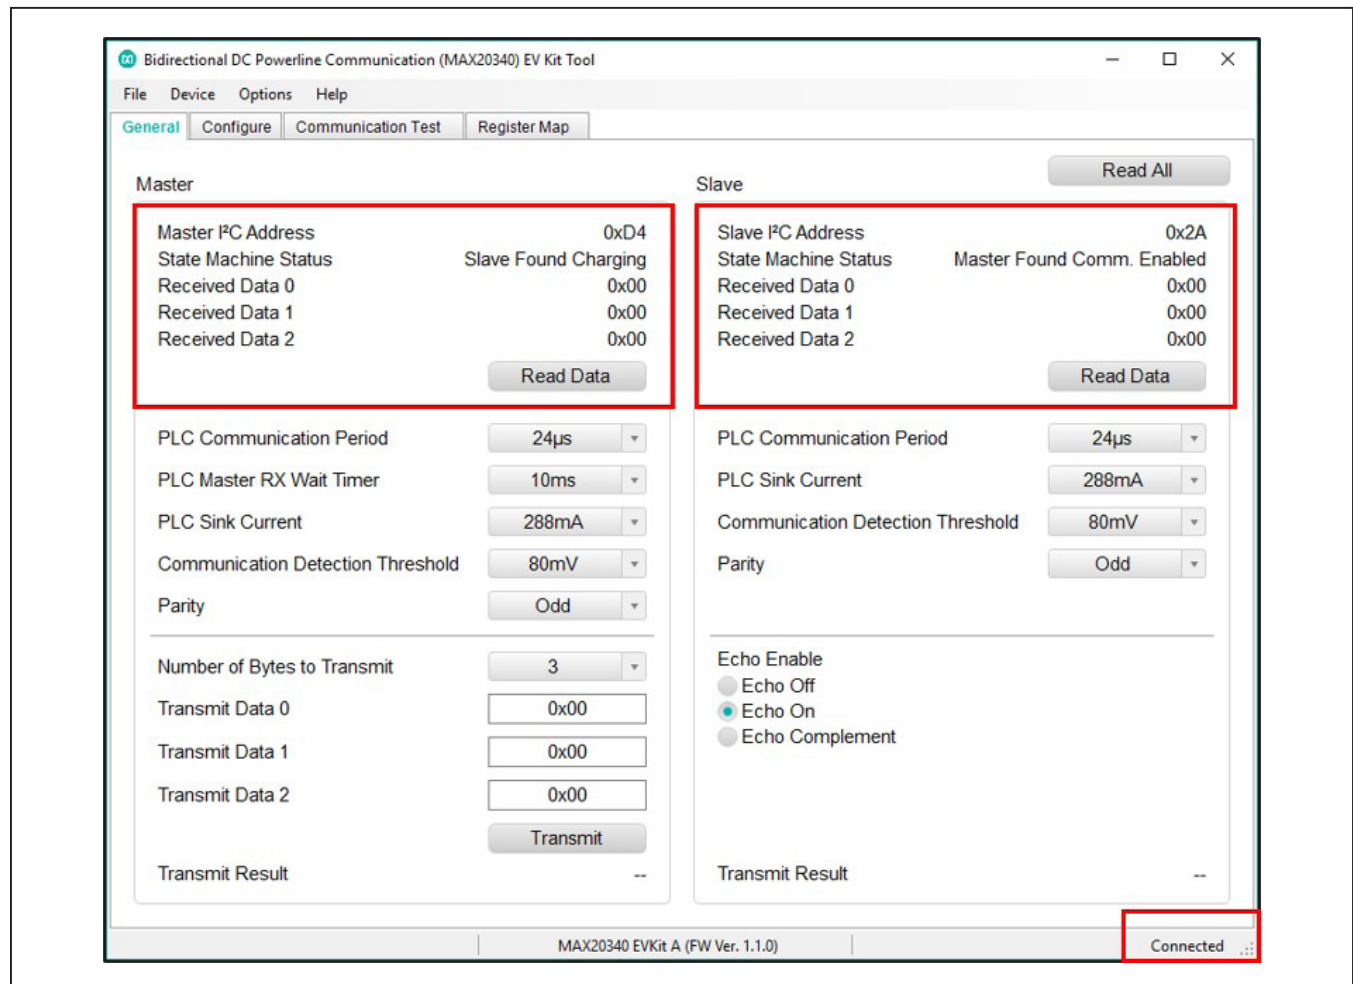

Figure 1. The Status of the GUI Shows Connected Ready for Further Evaluations.
- 8) Start the MAX20340 EV kit GUI. The EV kit software main window appears, as shown in Figure 1.